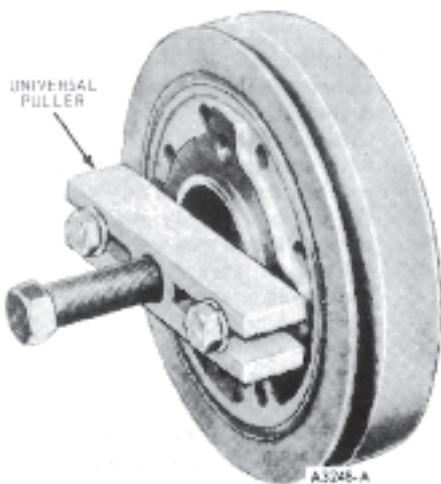

Fig.21 Removing Crankshaft Vibration Damper
3. Remove the crankshaft pulley from the crankshaft vibration damper. Remove the damper attaching screw and washer. Install the puller on the crankshaft vibration damper (Fig. 21) and remove the vibration damper.